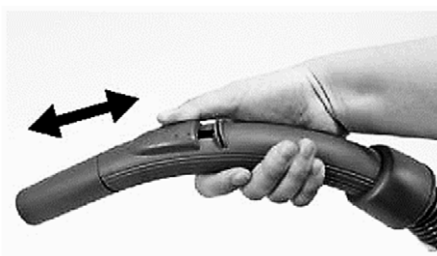

Fig 5
4. The suction can be released quickly by moving the suction release slider on the top of the flexible hose handle (fig. 5).